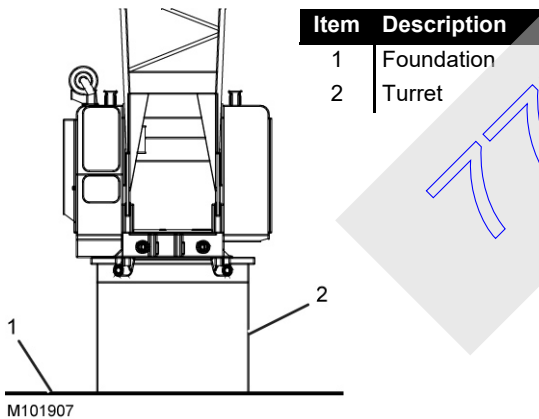

Figure 2-5. Turret-Mounted Crane
1. Crane rotating bed mounted on a turret (pedestal) which is securely fastened to the foundation (Figure 2-5).